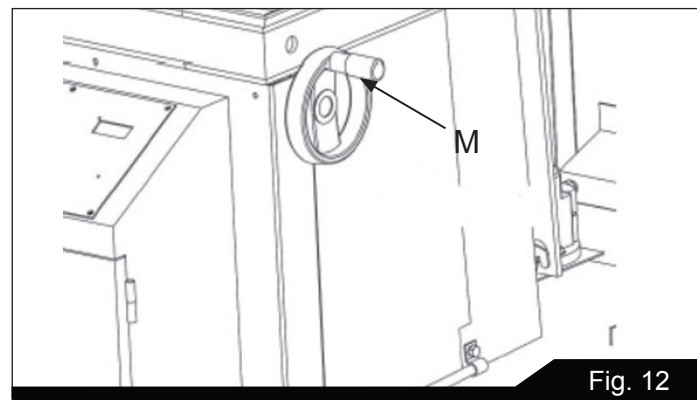

Fig. 12
Reference Figures 12, 13, and 14.
The cutting head can be fed forward or backwards manually by rotating the feed handle (M, Fig. 12) counterclockwise (CCW) or clockwise (CW), respectively.